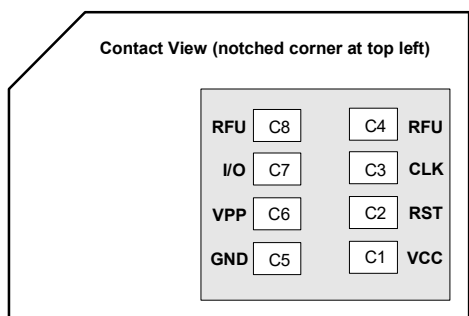

Figure 2-6: SIM Card Contacts (Contact View)
a. See Figure 2-6 on page 25 for SIM card contacts.